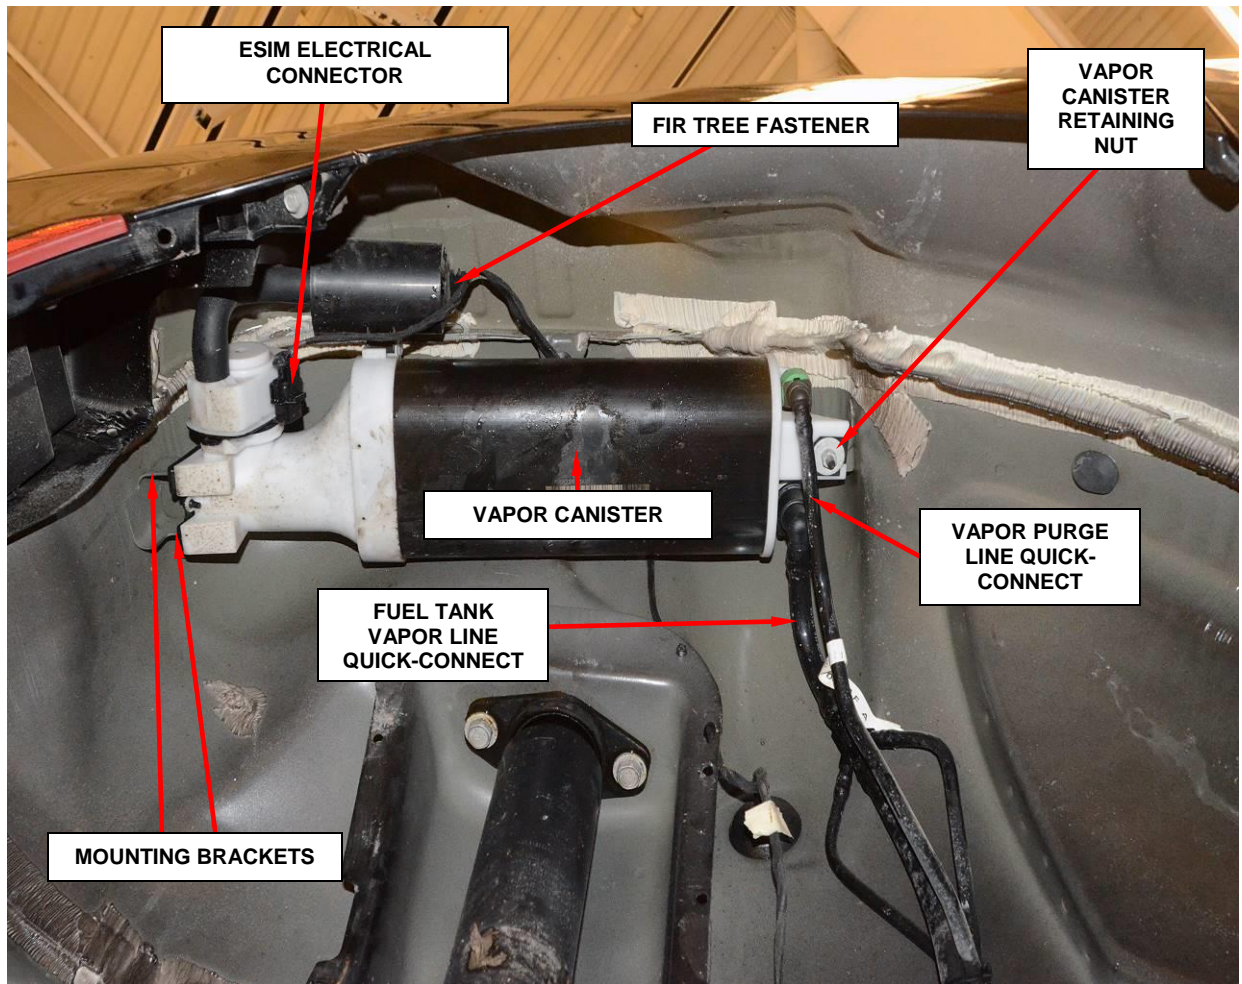

**Figure 3 – Wheelhouse Shield**
6. Remove the right rear wheelhouse shield from the vehicle (Figure 3).
11. Position the rear wheelhouse shield into the rear wheel well (Figure 3).